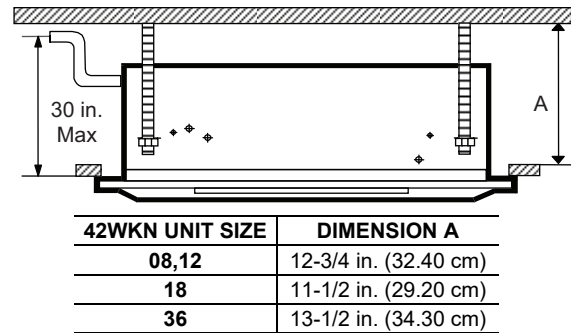

Fig. 37 — Minimum Distance to Ceiling
7. There should be sufficient room above the false ceiling for installing the unit. Minimum distance as shown in Fig. 37.